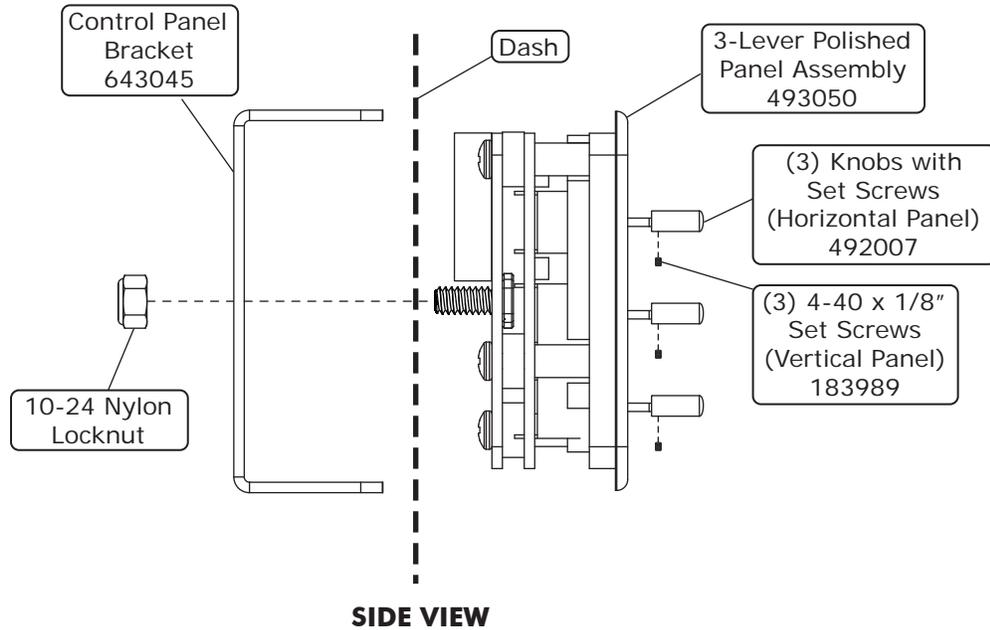

Figure 1
2. Install the (3) knobs onto the 3-lever panel assembly using the set screws as shown in Figure 1, Page 5.
1. Install the 3-lever panel assembly into the dash by placing the control panel bracket behind the dash and securing it to the 3-lever panel assembly using a 10-24 nylon locknut (See Figure 1, below).